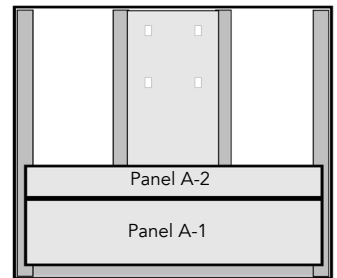

Figure 3.1.2
3.1.2 Place template marked “Elevation A/C Template” on Panel A2 as shown in **Figure 3.1.2**.